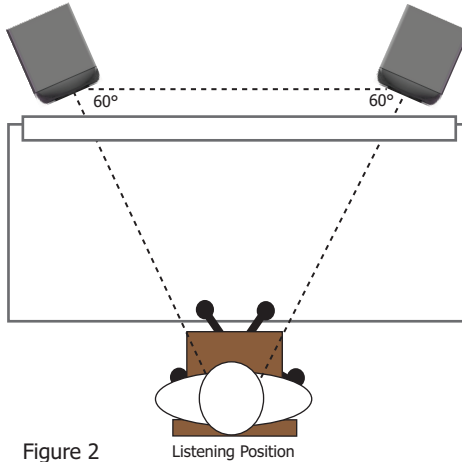

Figure 2
**Mid-Field Configuration** – This configuration is similar to the Close-Field configuration. It is normally used with larger monitors or when the monitors are too large or heavy to be placed on the work surface. This set up has the potential for a larger sweet spot and better spatial imaging. Make sure that the monitor is high enough so that the woofer is not obscured by your mixing surface or studio furniture (refer to Figure 2).